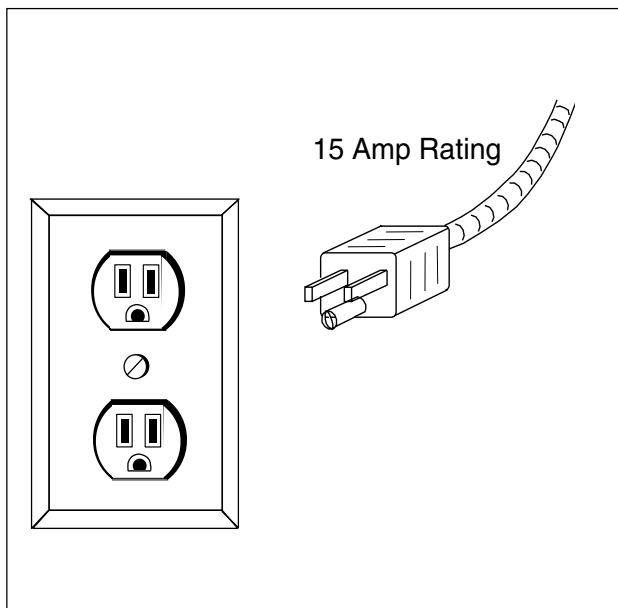

Figure 1. Electrical outlet and 15 amp rated power cord
- (b.) Use a three-prong (grounded) power cord rated at 15 amps minimum, with a length no longer than needed to reach from the installed Carry-On to a grounded, 3-wire receptacle on your boat, or to a suitable grounded dockside outlet. (See Figure 1.)